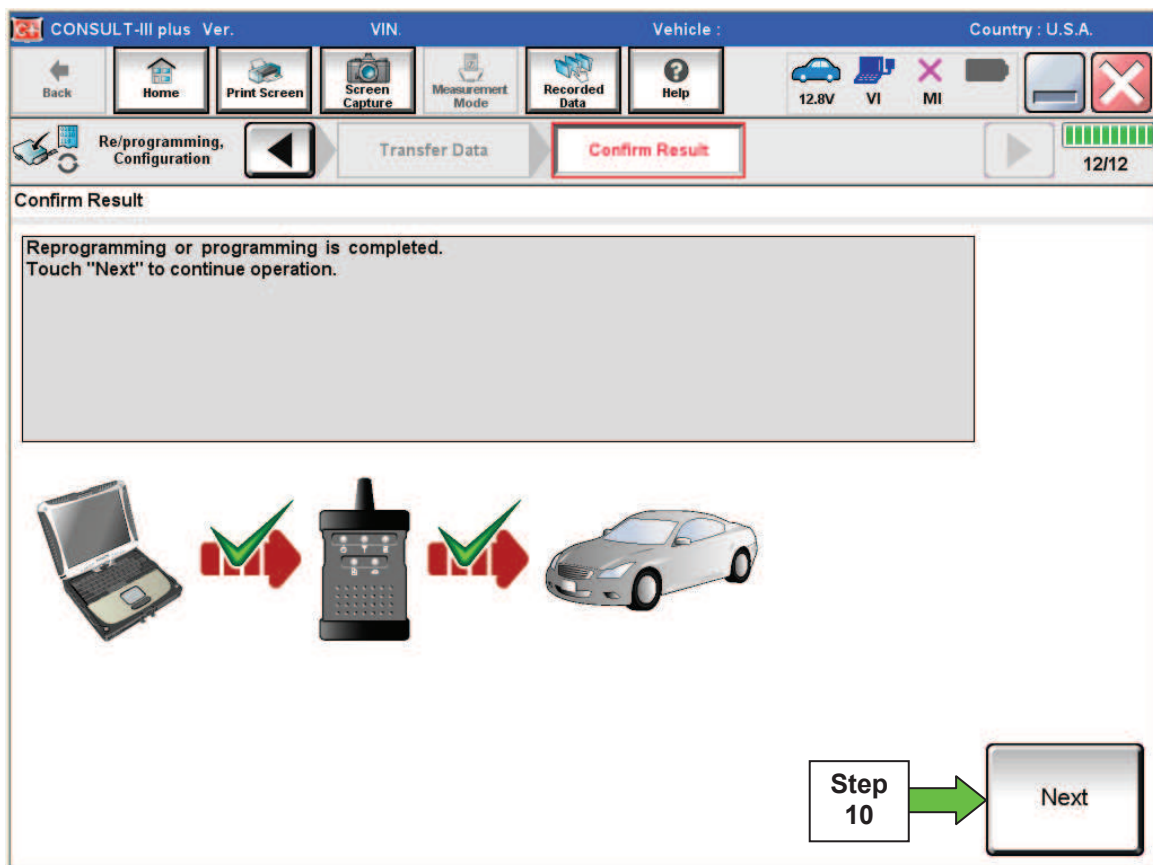

Figure 4
8. When the screen in Figure 4 displays, reprogramming is complete.
NOTE: If the screen in Figure 4 does not display (reprogramming does not complete), refer to the information on page 10.